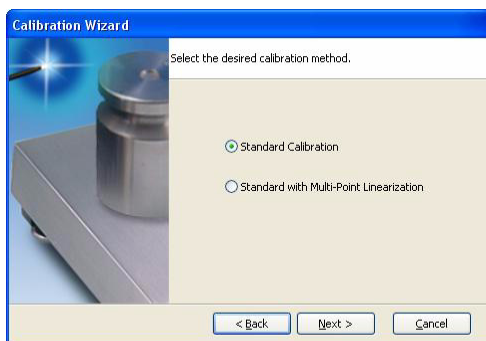

Figure 4-3. *Revolution III* Calibration Wizard Display
1. On the first Calibration Wizard display (see Figure 4-3), select whether you are performing a standard (zero and span) calibration or a multi-point linear calibration. Click the *Next* button to continue.